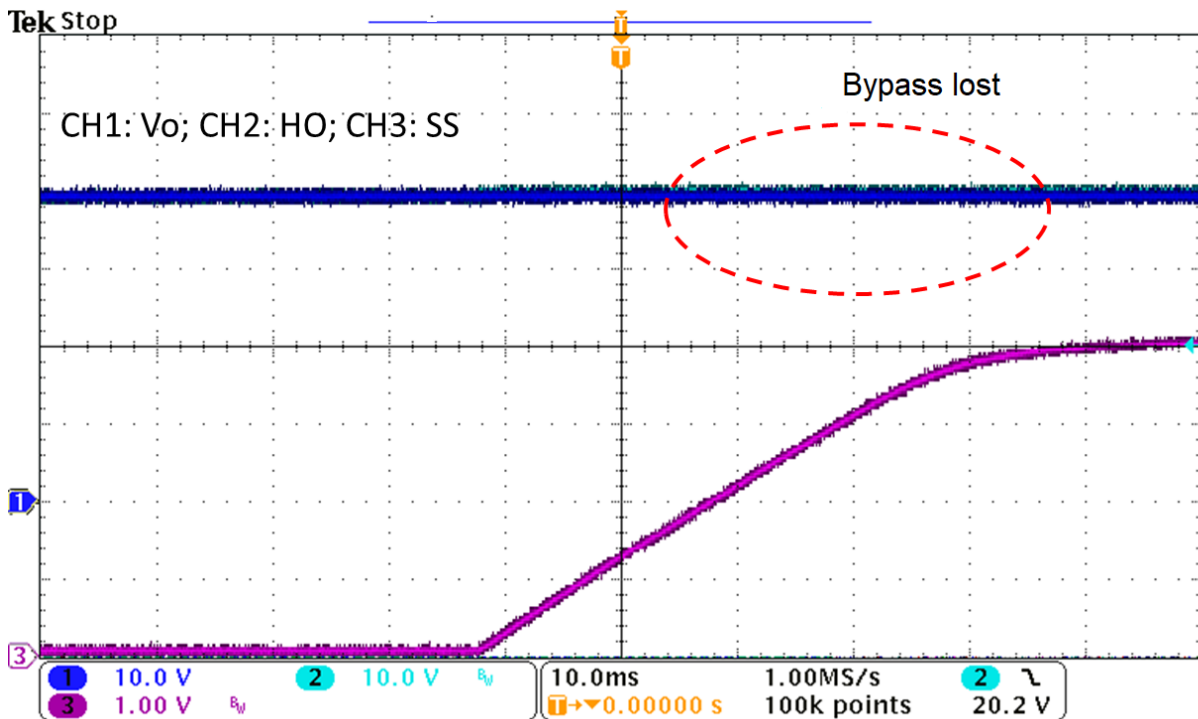

Figure 3. Waveform of Bypass loss
In practice, the input voltage is often not always varied to switch on and off due to time series or system control aspects. The input undervoltage lockout (UVLO) and programmable soft-start (SS) of the LM5122 can receive external signals to achieve switch control (UVLO pin is recommended for practical applications). When the voltage of the UVLO pin drops below 1.2V, the LM5122 will turn off the PWM signal. In practice, it is found that the Bypass function may be lost if the external signal controls the UVLO pin for switching on and off, when the input voltage is higher than the output, as shown in Figure 3. CH1 is the output voltage (Vo); CH2 is the high-side output voltage (HO); CH3 is the soft-start pin (SS). Test settings: The input voltage sets to 40V; the fixed output voltage sets to 28V. It is clear in the figure below that after the soft-start HO is the same with the output voltage, the high-side switch is not enabled, neither is the Bypass function.